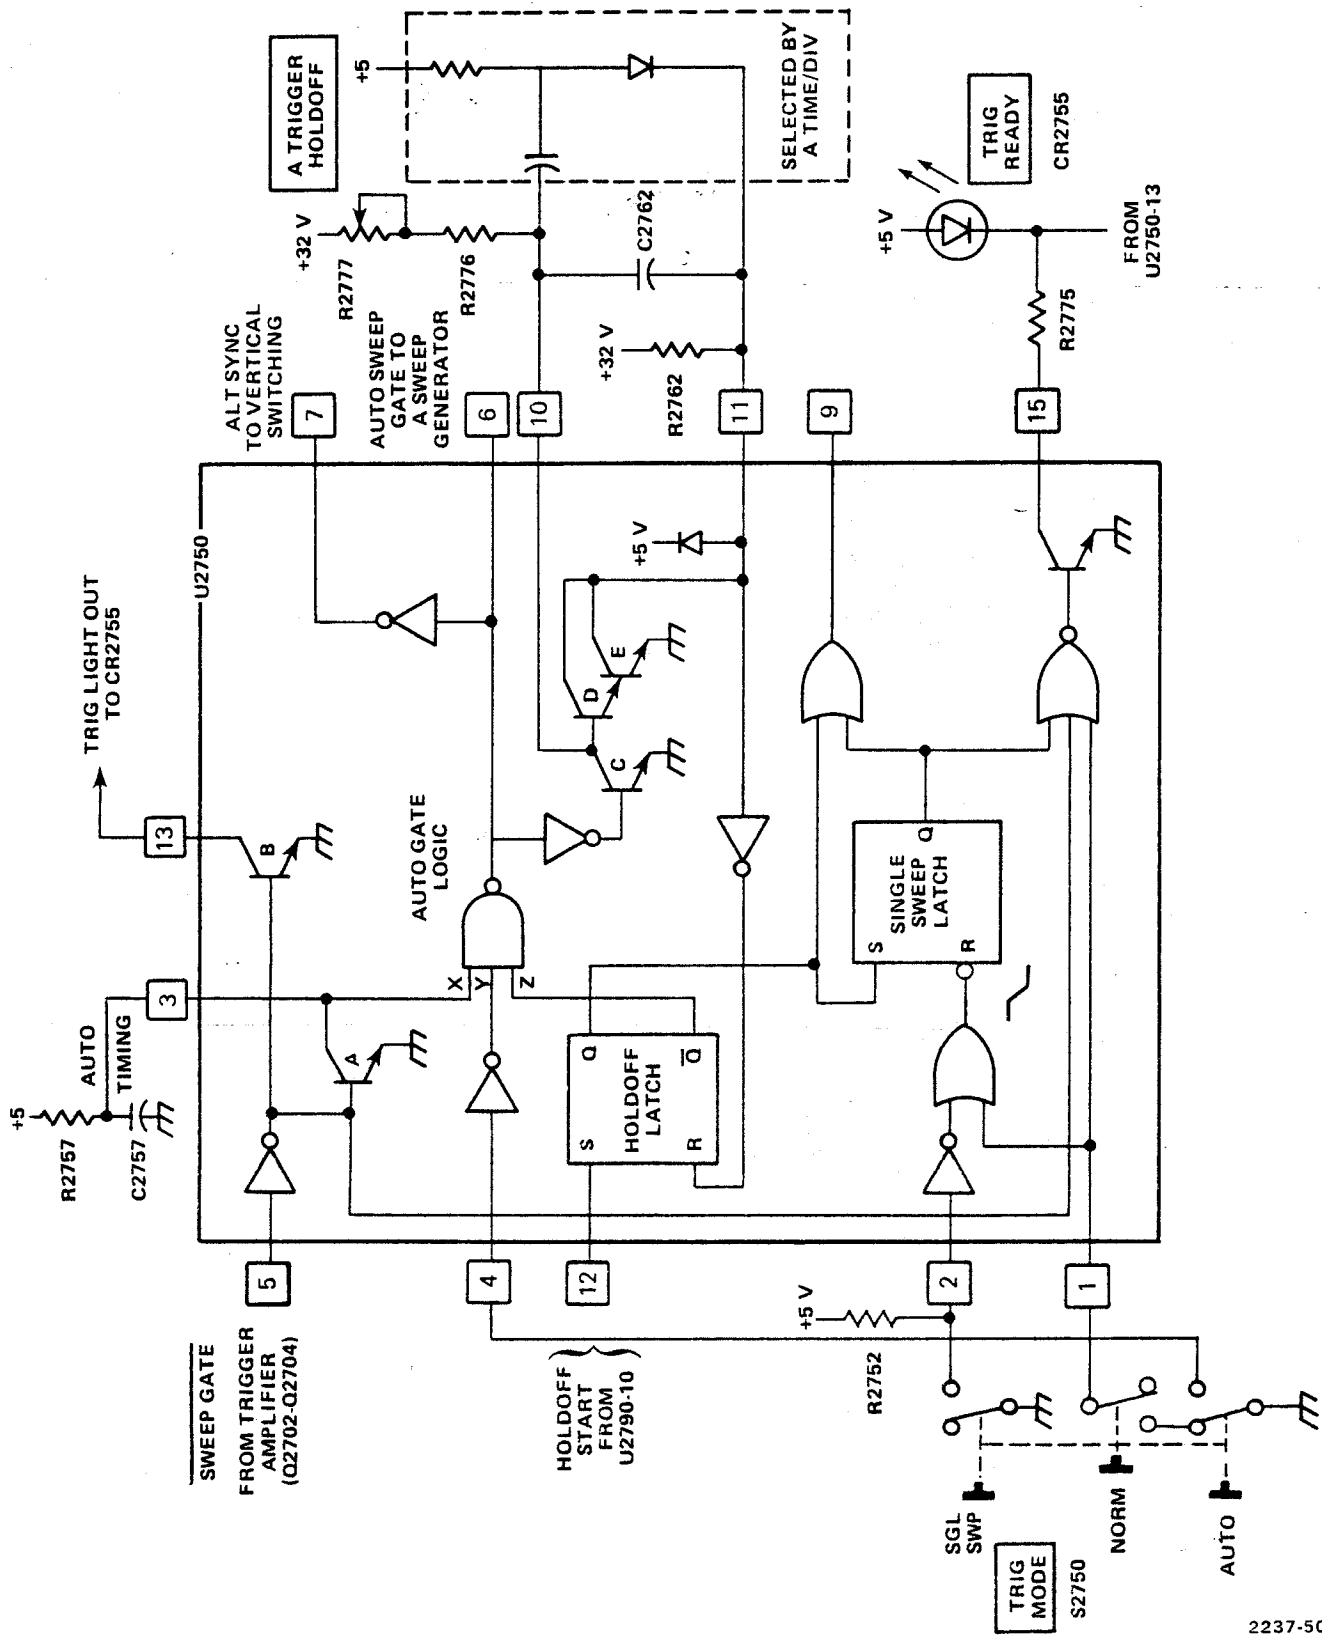
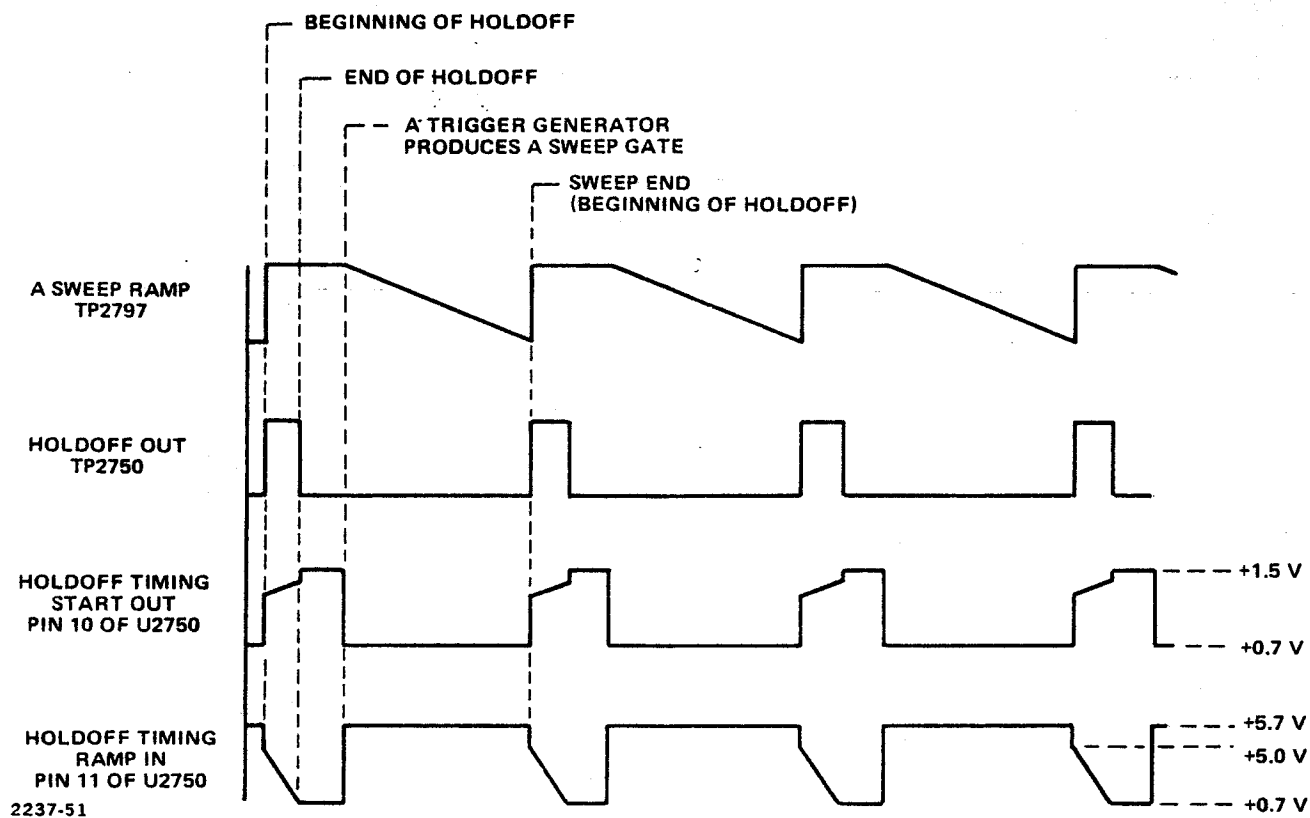

Figure 4-10. Functional block diagram of the sweep control integrated circuit and associated circuitry.
Figure 4-11. Waveforms produced by holdoff control circuitry.
(9) Sweep Control. Sweep Control consists of U2750 and associated circuitry. The circuit controls holdoff duration, AUTO sweep, and single sweep operation. Figure 4-10 shows a functional block diagram of U2750 and associated circuitry.
(a) Holdoff Control. Holdoff control is provided by a Miller ramp generator which consists of three transistors within U2750, and an RC network. Resistors R2776 and R2777 are the timing resistors. Capacitor C2762 and a capacitor selected by the A TIME/DIV switch are the timing capacitors. Figure 4-10 shows a functional block diagram of U2750 and associated circuitry. Figure 4-11
1 At the beginning of A sweep generation, pin 6 of U2750 steps LO. This LO passes through an inverting amplifier and turns on transistor C and turns off transistors D and E (see Figure 4-10). When transistors D and E turn off, pin 11 of U2750 is pulled more positive through R2762. Pin 11 is clamped at about +5.7 volts by a diode within U2750. The current through the timing resistors (R2776 and R2777) is supplied by transistor C through pin 10 of U2750. This condition is maintained until the end of A sweep generation.
(b) AUTO Sweep Control. When pin 4 of U2750 is set LO by the TRIG MODE switch, Sweep Control provides a baseline trace in the absence of an adequate trigger signal. Figure 4-10 shows the Sweep Control integrated circuit and associated circuitry. Figure 4-12 shows the waveforms produced during AUTO sweep gate generation.
1 When the TRIG MODE switch (S2750) is set to AUTO, pin 4 of U2750 is set LO. This sets input Y of the AUTO gate logic HI through an inverting amplifier within U2750 (see Figure 4-10).
(c) Single Sweep Control. When the TRIG MODE switch (S2750) is set to SGL SWP, pin 1 of U2750 is connected to ground. Now, when adequately triggered, only one sweep ramp will be generated. After one sweep is displayed, another sweep can't be presented until after the SGL SWP button has been pushed. Figure 4-10 shows a functional block diagram of the Sweep Control integrated circuit and associated circuitry.